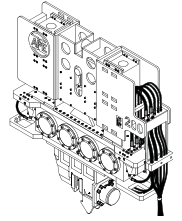

**Figure 7-B. CAT C-18 Right Side View**
**Engine** - The engine is a 630 HP (470 kW) Caterpillar C-18 diesel engine. It provides rotational power to drive the hydraulic pumps. (See Fig. 7-B).